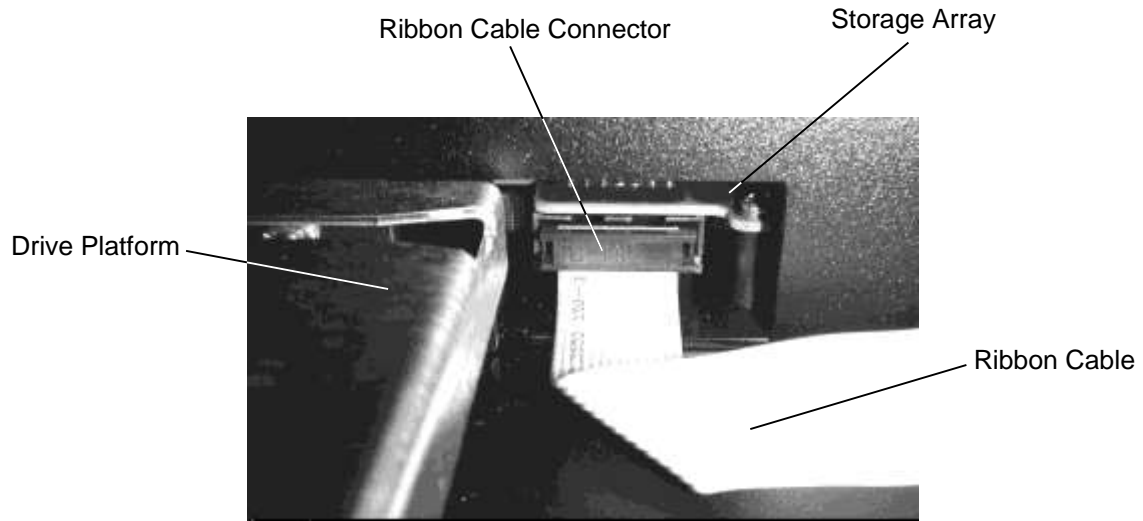

Figure 9-2 Detailed view of the Ribbon Cable attached to the Storage Array Assembly
4. In the rear left corner of the Drive Bay, just past the drive platform, is a ribbon cable running from left to right. Pull that cable to the right to unplug it from the Storage Array Assembly. See Figure 9-2.
9. Reach into the back, left corner of the drive bay and reconnect the ribbon cable that was detached from the connector on the Storage Array. The connector's keying bump must be pointed down or against the chassis. The connector on the Storage Array nearly touches the chassis bottom and is centered in the opening. Press firmly on the back of the connector to assure it's fully inserted into the Storage Array. See Figure 9-2.
7. In the rear left corner of the Drive Bay, just past the drive platform, is a ribbon cable running from left to right. Pull that cable to the right to unplug it from the Storage Array Assembly. See Figure 9-2.